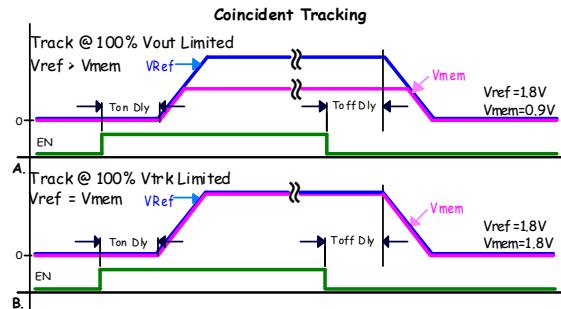

FIGURE 17. COINCIDENT TRACKING
The ZL9117M offers two modes of tracking: coincident and ratiometric. Figures 17 and 18 illustrate the output voltage waveform for the two tracking modes.
1. Track at 100% V_{OUT} limited. Member rail tracks the reference rail and stops when the member reaches its target voltage, Figure 17(A).
2. Track at 100% V_{TRK} limited. Member rail tracks the reference at the instantaneous voltage value applied to the VTRK pin, Figure 17(B).